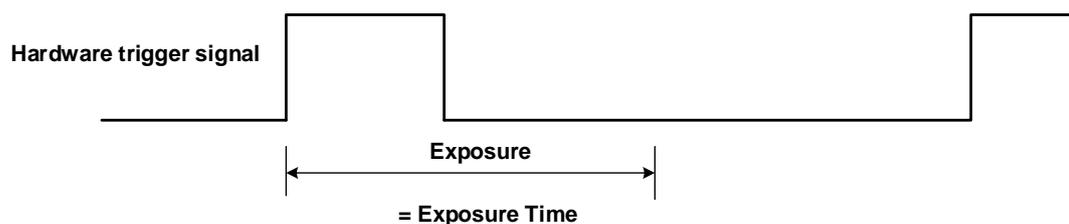

Figure 8-28 The sequence diagram in rising edge trigger of Timed exposure mode
- If rising edge triggering is enabled, exposure starts when the trigger signal rises and continues until the exposure time has expired, as shown in Figure 8-28